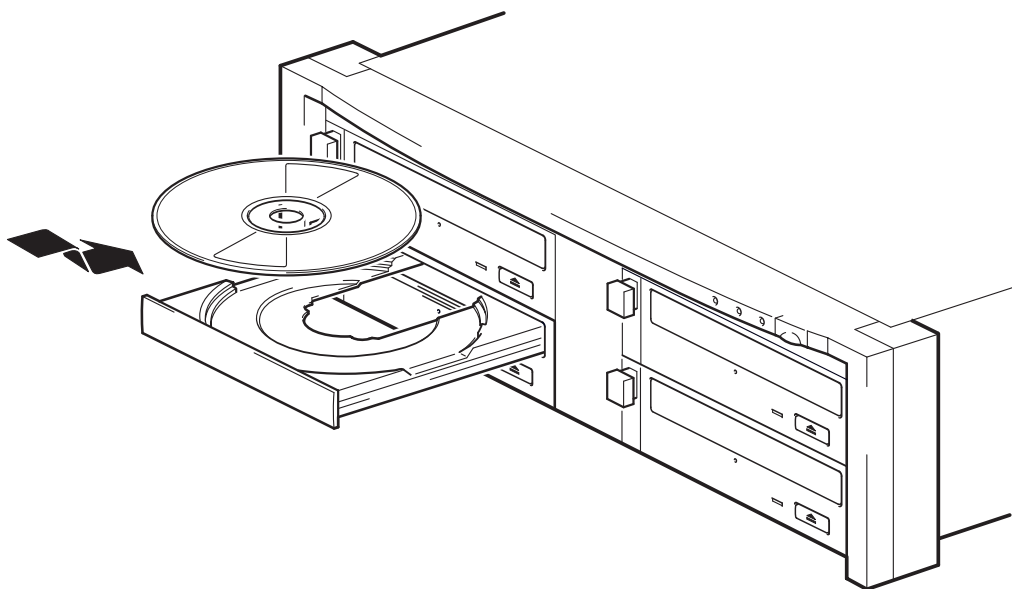

Figure 4a: loading a disk
- 1 Insert a CD or DVD into the disk loading tray with the printed side facing up, as shown in figure 4a, and push the tray gently back into the drive.